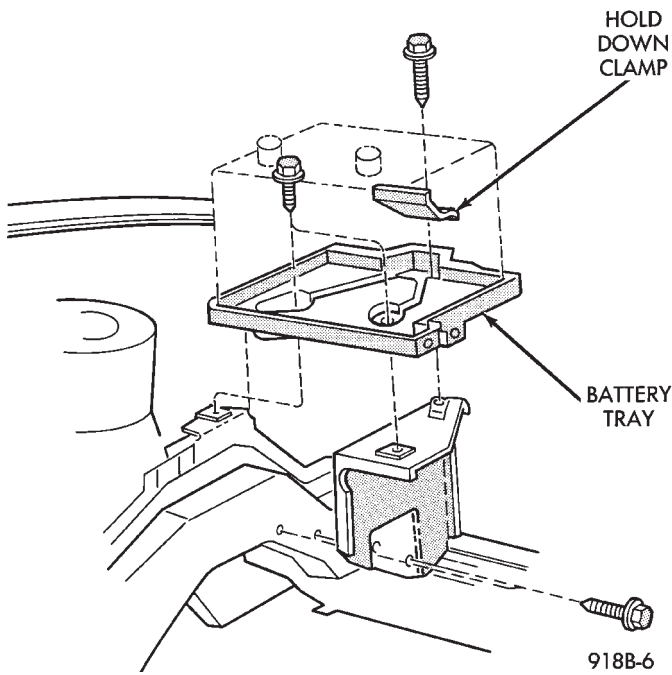
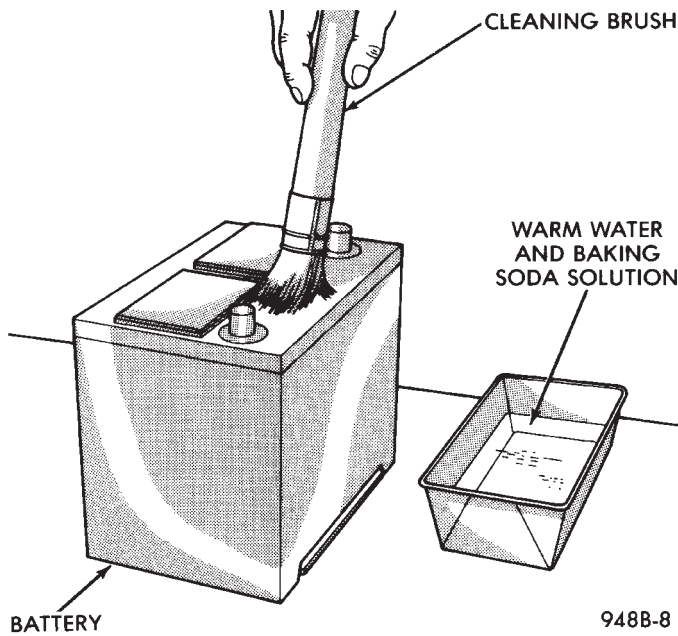
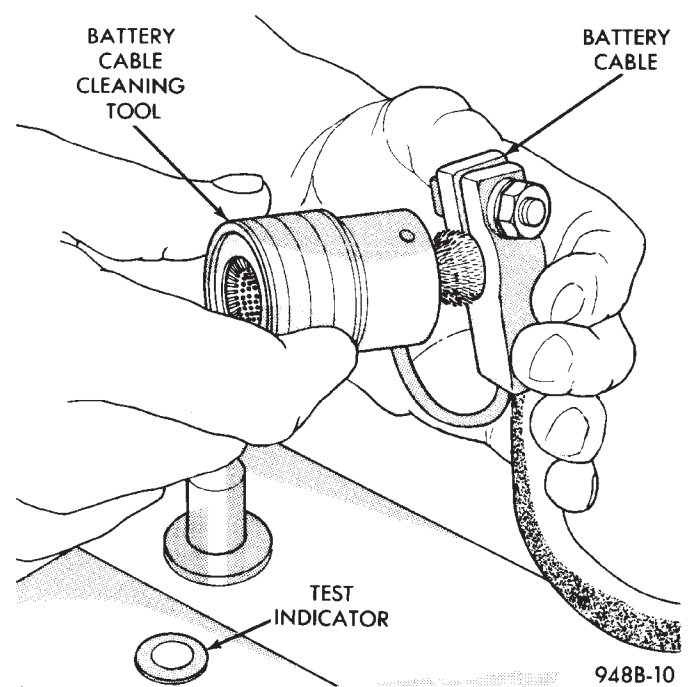

Fig. 3 Battery Hold-Down/Tray
Fig. 4 Cleaning Battery
Fig. 6 Cleaning Battery Cable Terminal
- (3) Remove battery hold down clamp (Fig. 3) and remove battery from vehicle.
- (4) Clean top of battery with a solution of warm water and baking soda. Apply solution with a bristle brush and allow to soak until acid deposits loosen (Fig. 4). Rinse with clear water and blot dry with paper toweling. Dispose of toweling in a safe manner. Refer to the WARNINGS on top of battery.
- (5) Inspect battery case and cover for cracks or leakage. If leakage is present battery must be replaced.
- (6) Inspect battery tray (Fig. 3) for damage caused by acid from battery. If acid damage is present, it will be necessary to clean area with same solution described in Step (4).
(8) Clean inside surfaces of battery terminal clamps with a suitable battery terminal cleaning tool (Fig. 6). Replace damaged or frayed cables and broken terminal clamps.
(9) Inspect battery for proper or damaged hold down ledge.
(10) Install battery in vehicle making sure that battery is properly positioned on battery tray (Fig. 3).
(11) Install battery hold down clamp, making sure that it is properly positioned on battery.
(12) Place felt grease washer onto battery positive post.
(13) Connect battery cable clamps to battery posts making sure top of clamp is flush with top of post. Install POSITIVE cable first.
(14) Tighten clamp nuts securely.